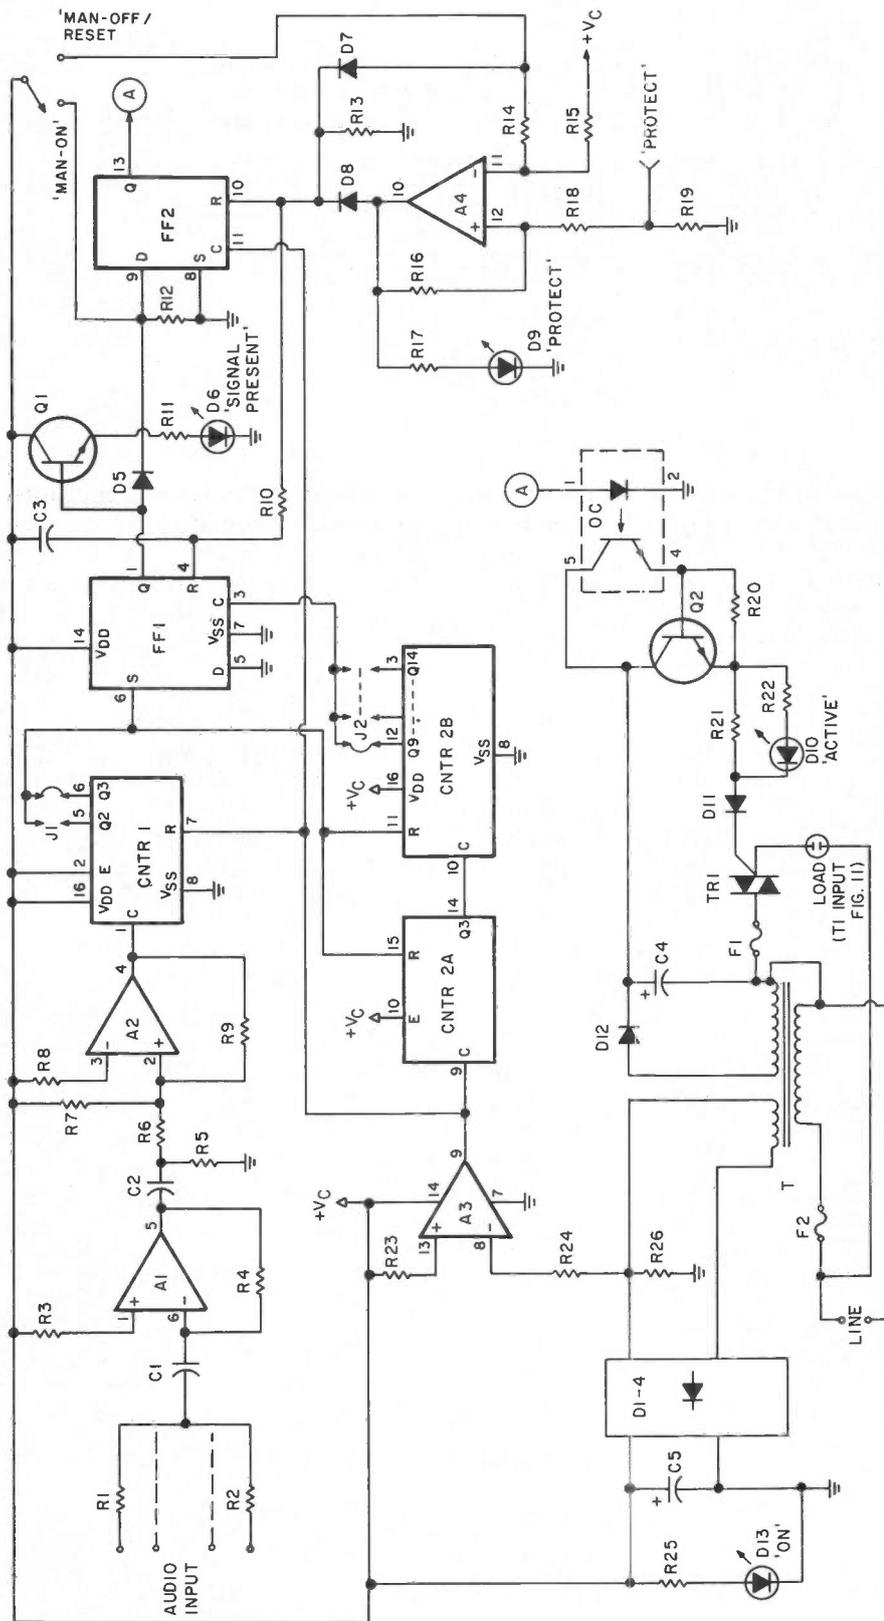

FIGURE 21: This AAPS circuit design includes many improvements on the author's original one, which appeared in TAA several years ago.
**T**HIS NEW AUDIO activated power switch (AAPS) circuit (Fig. 21) has many improvements over my first design (TAA 3/78, p. 16). The input is now a virtual earth circuit, so high-output impedance preamps do not deteriorate channel separation.